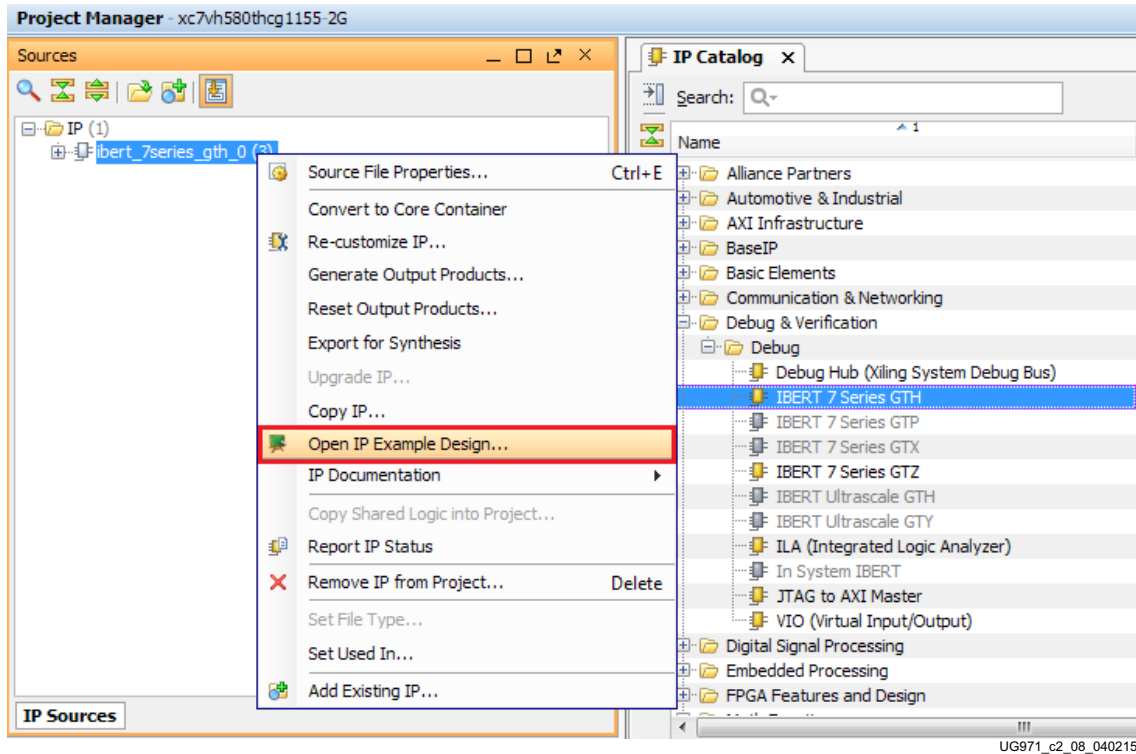

Figure 2-8: Open IP Example Design
10. In the Manage IP window (Figure 2-3), in the Sources window, right-click the **IBERT IP** and select **Open IP Example Design** (Figure 2-8). Specify a location to save the design, press **OK**, and the design opens in a new Vivado window.